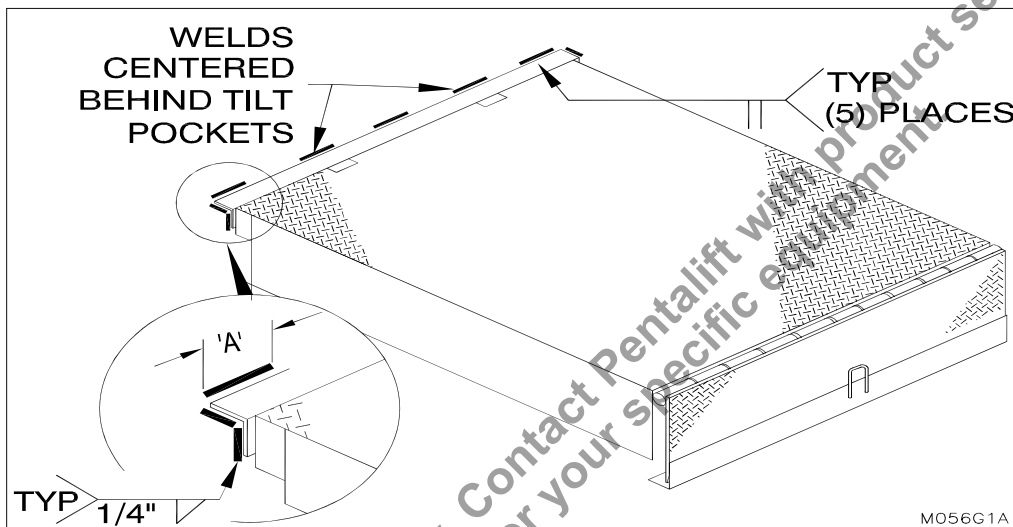

Figure 13: Back Angle Weld of Dock Leveler
The maintenance stand of this dock leveler is designed for use only when the dock leveler is securely welded into the dock leveler pit. Use of the stand is not recommended if the dock leveler is not securely welded into the pit (see "Figure 13: Back Angle Weld of Dock Leveler" on page 16). To support the dock leveler at times when installation welding is not in place, utilize the auxiliary maintenance stand (see "Figure 59.1: Supporting the Dock Leveler with the Auxiliary Maintenance Stand" on page 51) that supports the dock leveler more centered on the dock leveler width.
5. ___ Weld back angle of dock leveler to rear curb angle as shown in "Figure 13: Back Angle Weld of Dock Leveler" on page 16, using the welding reference and notes on page 28 as a guide.
16. ___ Complete welding the back angle of the dock leveler to the rear pit curb angle as shown in "Figure 13: Back Angle Weld of Dock Leveler" on page 16.